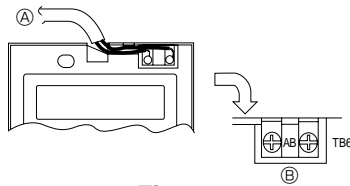

Fig. 2-3
- (C) Wall
- (D) Conduit
- (E) Lock nut
- (F) Bushing
- (G) Switch box
- (H) Remote controller cable
- (I) Seal with putty
- (J) Wood screw
2) Connecting procedures (Fig. 2-3)
- ① Connect the remote controller cable to the terminal block.
- (A) To TB62 No.5 and 6 on the FTC unit
- (B) TB6 (No polarity)